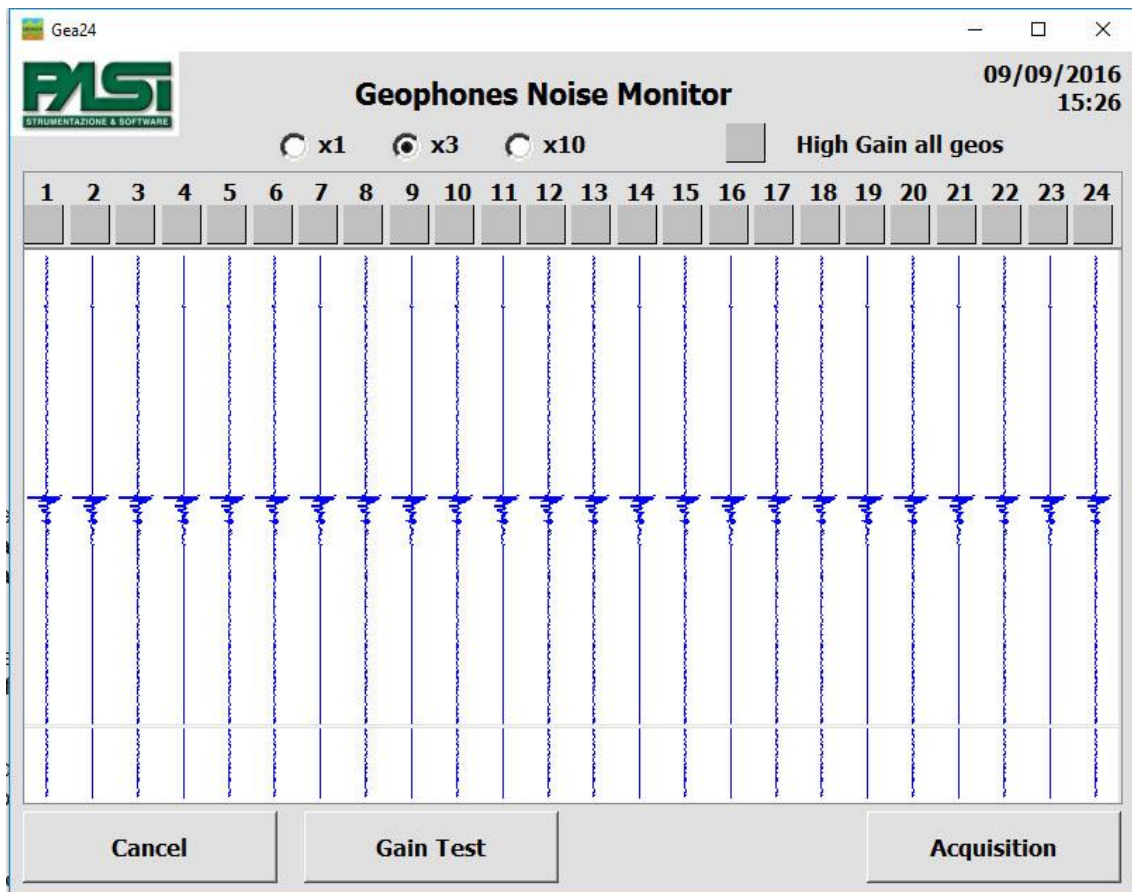

FIGURE 11 - NOISE MONITORING WINDOW
After selecting the configuration to use, by clicking on the (1) button "New Acquisition" in the homepage (figure 3) you enter the acquisition mode of the seismic traces. The geophone noise monitoring window allows the operator to view in real time the noise detected by the geophones themselves. This will allow the operator to check the correct operation of the hardware and the correct positioning of the geophones in the field. Figure 11 shows the noise monitoring window.